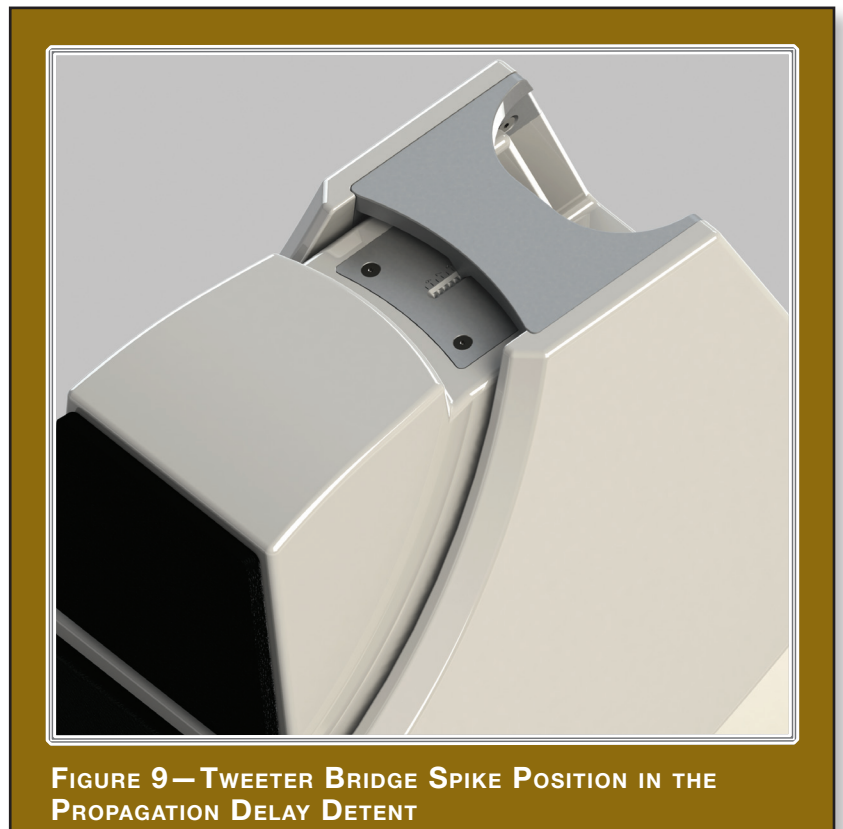

FIGURE 9—TWEETER BRIDGE SPIKE POSITION IN THE PROPAGATION DELAY DETENT
10. Refer to Table Number 4 labeled “Alexia Tweeter Detent Location.” This table indicates the detent location in which the cross member spike rests (see Figure 9).
5. Locate the number on the plate on the upper plane of the tweeter that corresponds to the detent indicated in the table (see Figure 9).
7. Retighten the oval thumb bolt, ensuring that the spike rests properly in its appropriate detent (see Figures 9 and 11).